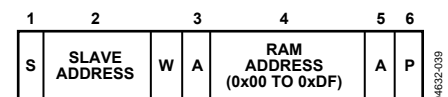

Figure 37. Setting a RAM Address for Subsequent Read
The SMBus specification defines several protocols for different types of read and write operations. The following abbreviations are used in Figure 37 to Figure 45:
- To write a register address to the RAM for a subsequent single byte read from the same address, or for a block read or a block write starting at that address, as shown in Figure 37.